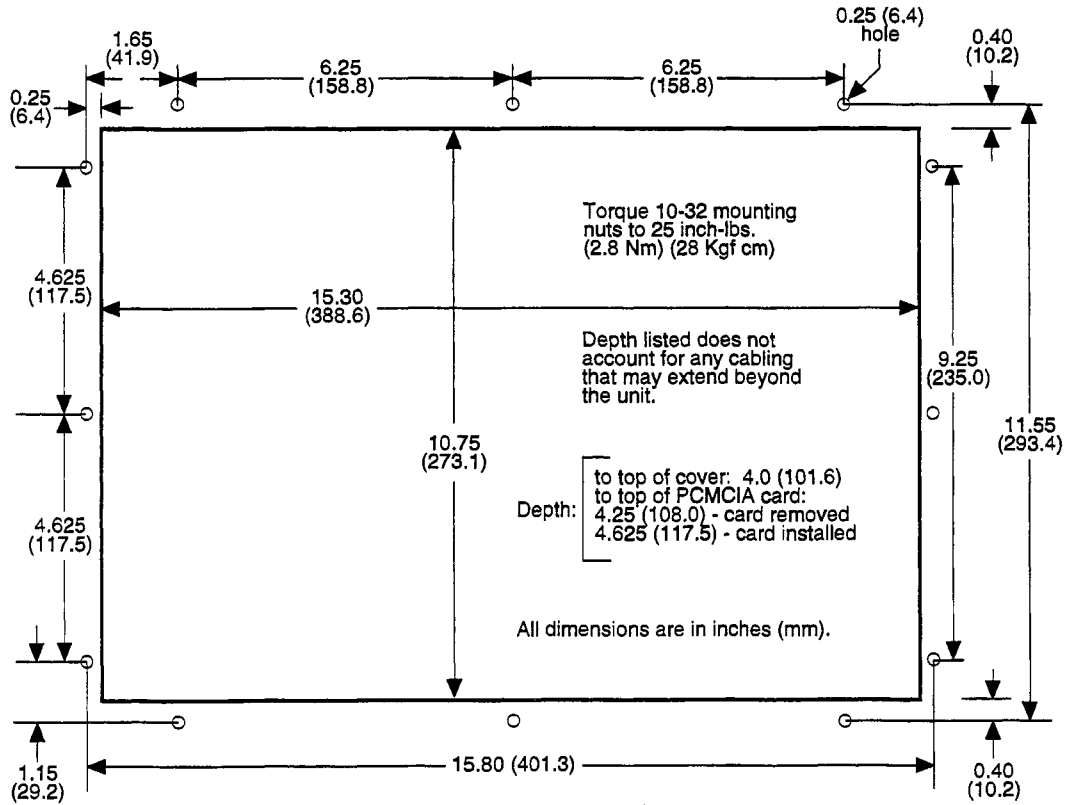

Figure 3-5. 3200 Panel Cutout Dimensions
2. Cut the hole according to the cutout dimensions in Figure 3-5 or 3-6.